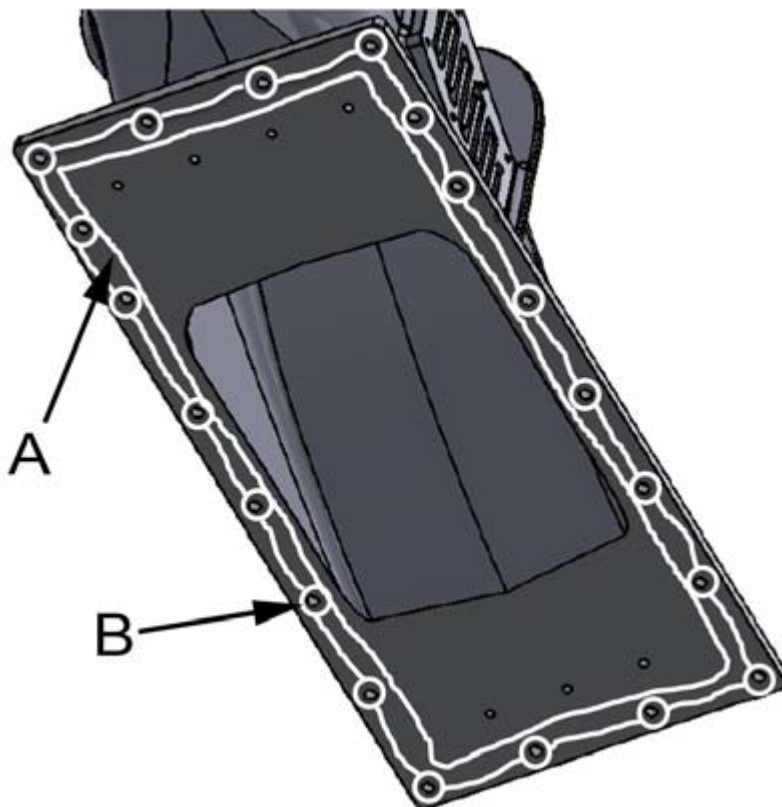

Figure 13. Installation surface on the bottom of the propulsion unit body
2. Apply sealing compound (e.g. Sikaflex 221) on the outer edge of the attachment surface on the bottom of the propulsion unit body, and on the edge on the intake duct side (figure 13, point A). Sealing compound should also be applied on the installation surface of the bottom adapter.
3. Apply compound in the fastening bolt (20 pcs) holes (figure 13, point B).